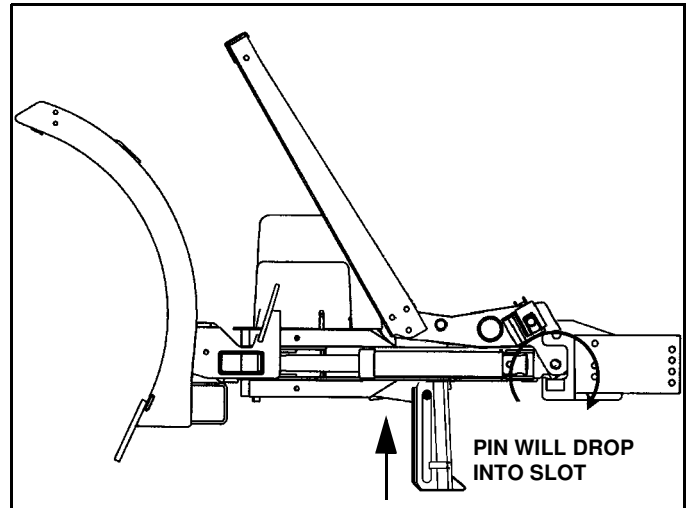
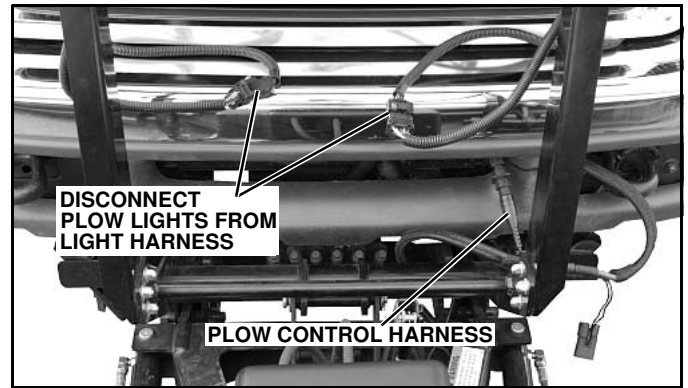

Figure 1-26
Figure 1-32
3. Rotate light/lift bar into position by turning on down pressure and pressing the lower button. (See Figure 1-26)
2. Disconnect the plow lights from the truck light harness. (See Figure 1-32) Disconnect the plow control harness and replace the protective cap. (See Figure 1-26 or 1-27).